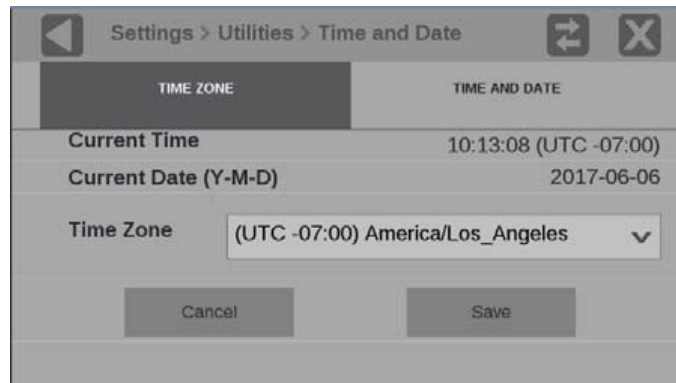

Figure 72: Time Zone submenu
4. Select **TIME ZONE** to open the submenu. (See Figure 72.)